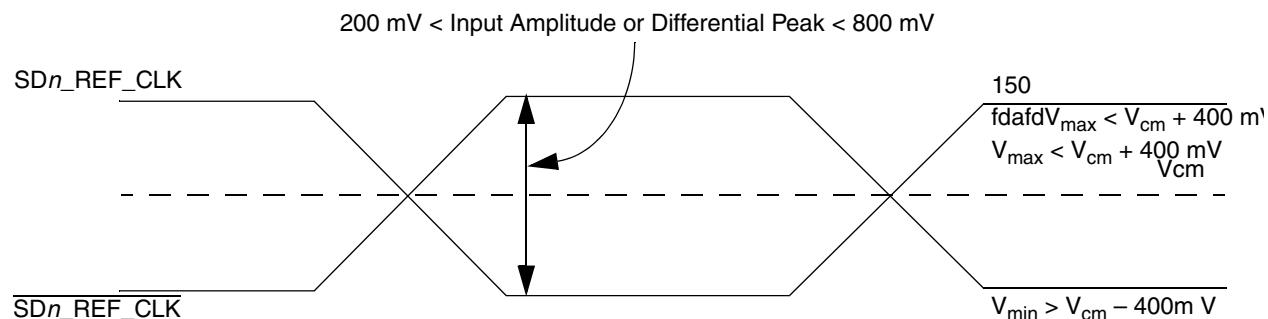

Figure 54. Differential Reference Clock Input DC Requirements (External AC-Coupled)
- For **external AC-coupled** connection, there is no common mode voltage requirement for the clock driver. Since the external AC-coupling capacitor blocks the DC level, the clock driver and the SerDes reference clock receiver operate in different command mode voltages. The SerDes reference clock receiver in this connection scheme has its common mode voltage set to SGND_SRDSn. Each signal wire of the differential inputs is allowed to swing below and above the command mode voltage (SGND_SRDSn). Figure 54 shows the SerDes reference clock input requirement for AC-coupled connection scheme.